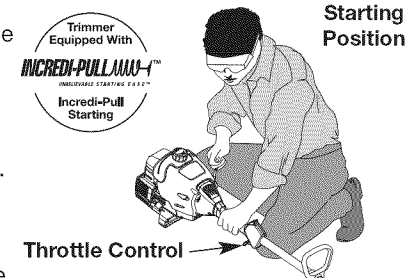

Fig. 4
**WARNING:** Avoid accidental starting. Make sure you are in the starting position when pulling the starter rope (Fig. 4). To avoid serious injury, the operator and unit must be in a stable position while starting.
4. Crouch in the starting position (Fig. 4). Do not squeeze the throttle, pull the starter rope with a controlled motion until the unit starts. Wait and allow the unit to idle for 60 seconds.